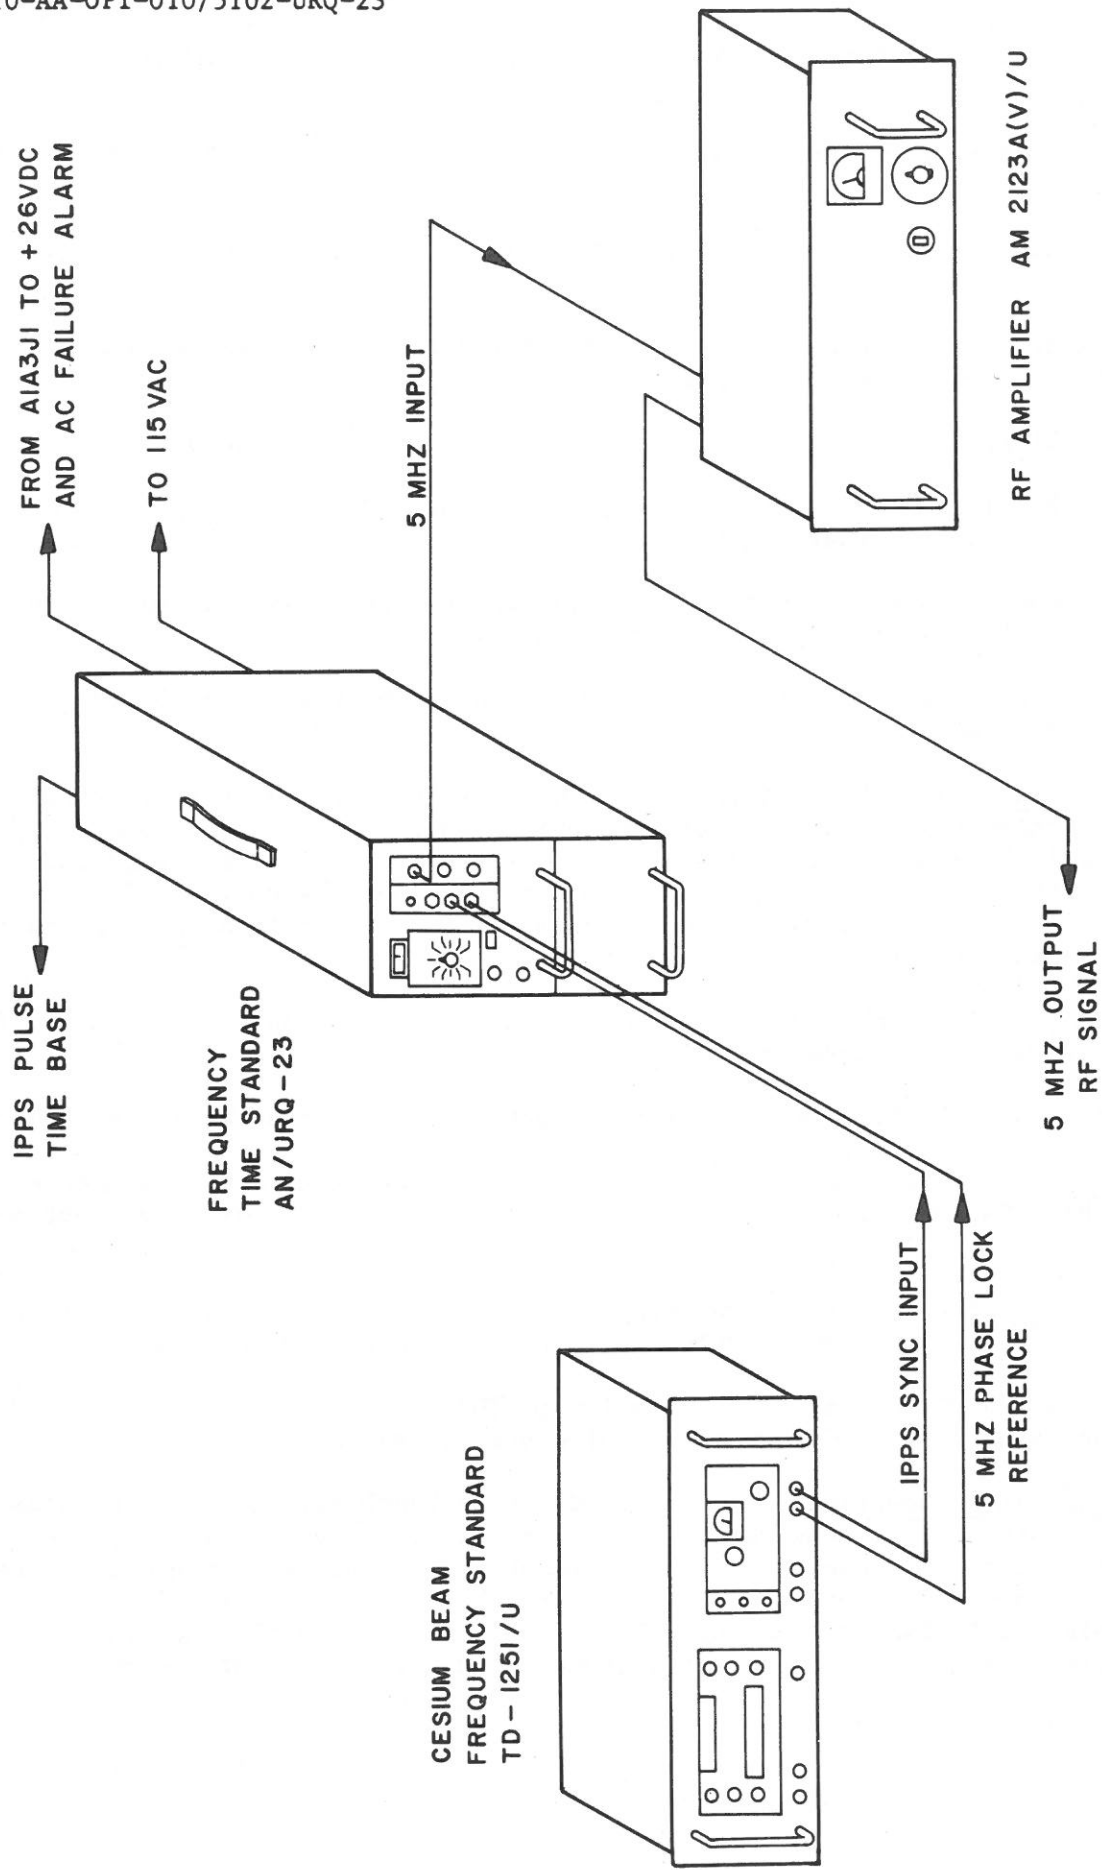

Figure 8-1. Typical System Application of Standard
a. Installation Mounting. The standard can be bench mounted, rack mounted, or used in a free-standing arrangement. Figure 8-1 illustrates a typical application in which the standard is one of a group of bench-mounted units. Figure 8-2, the installation diagram for the standard, shows the location (in Detail B) of the mounting holes to be used for arrangements of this type. Mounting hardware for bench-mounting must be long enough to accommodate the thickness of the bench on